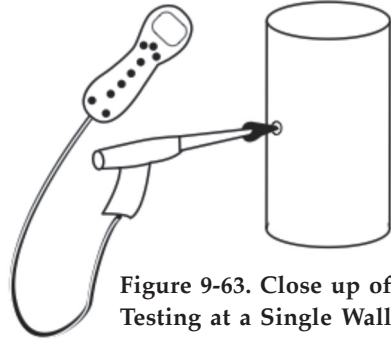

Figure 9-63. Close up of Testing at a Single Wall Flue with a Combustion Analyzer
- 80%+/fan assist/medium efficiency furnace—Single Wall Flue (Figure 9-63)—Drill a hole into the flue just large enough for the analyzer probe at 1 to 2 ft above the draft diverter/vent connection or just beyond the first elbow. Do not drill into corrugated flues.